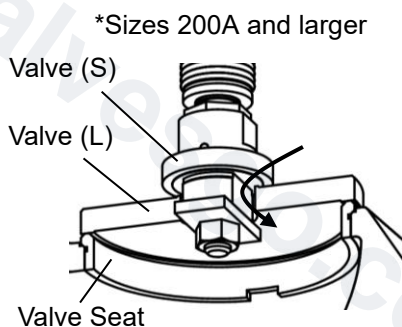

Figure 2
(3) Do not try to turn the handle beyond its fully open/closed positions. Otherwise, the valve may be damaged.
(4) Sizes 200A and larger are equipped with Valve (S) to reduce the opening torque. When opening the valve, first rotate the Handle by approximately one full turn to open the Valve (S) and allow the differential pressure between the inlet and outlet pressures to reduce before continuing to operate the Handle (See Figure 2).